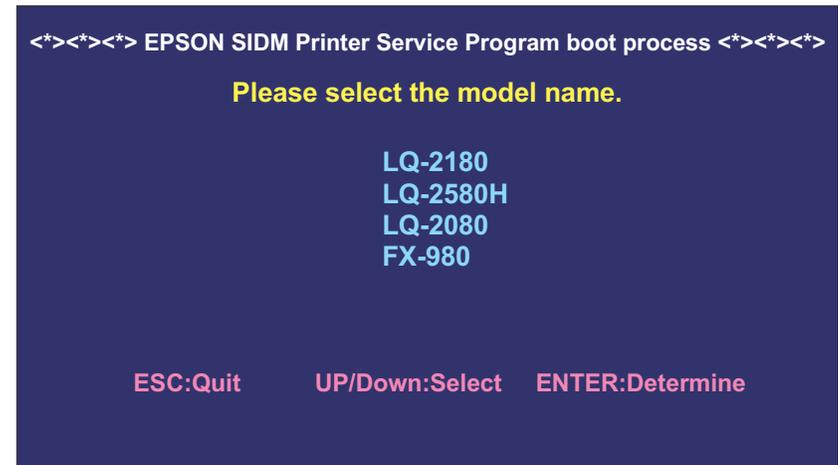

Figure 4-1. LQSERIES.EXE Initial Screen
- Select “No” if you have input a wrong model name in the screen shown in Figure 4-1.